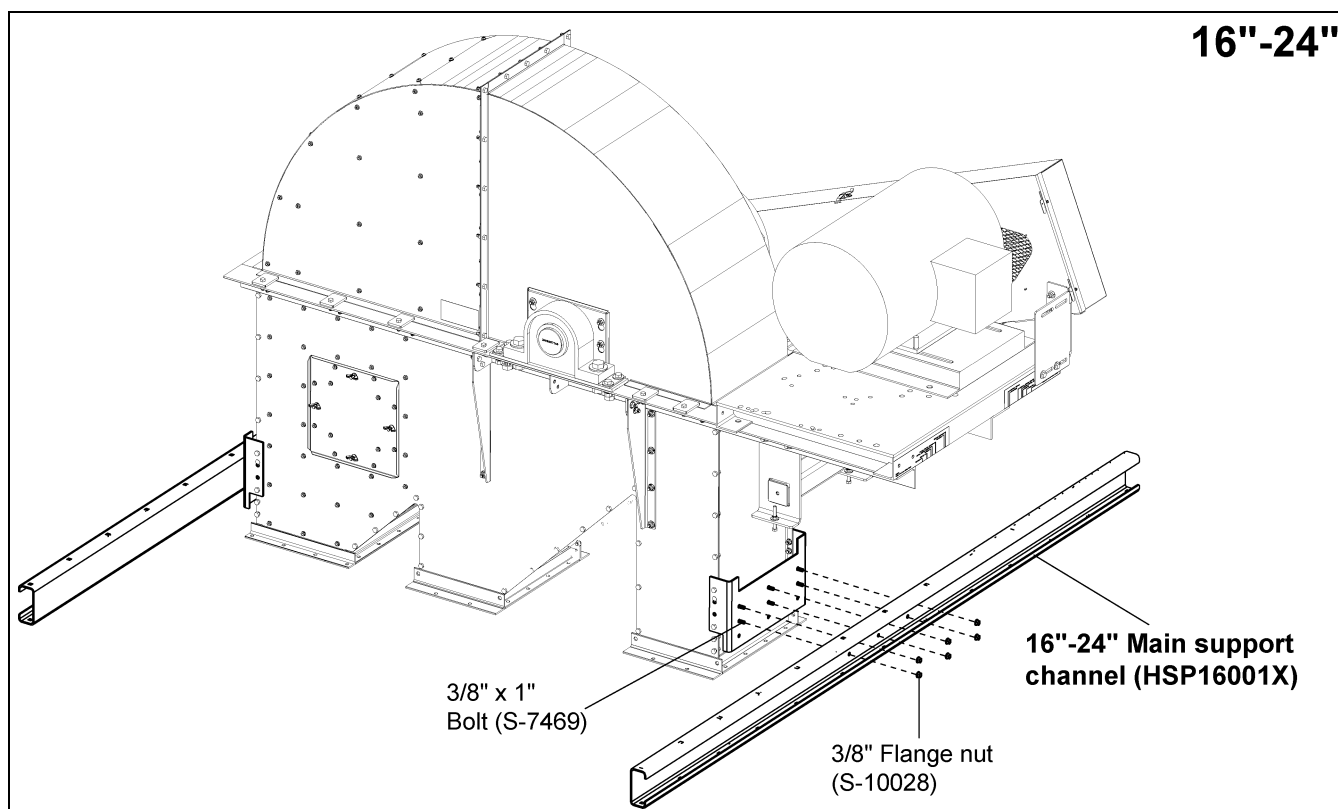

Figure 7A Cross Deck Support Channels Head
3. Attach each **Main Support Channel** to the **Lower Head Bracket** at the top most set of holes using 3/8" x 1" bolts and nuts and torque to standard specifications. (See Figure 7A.)